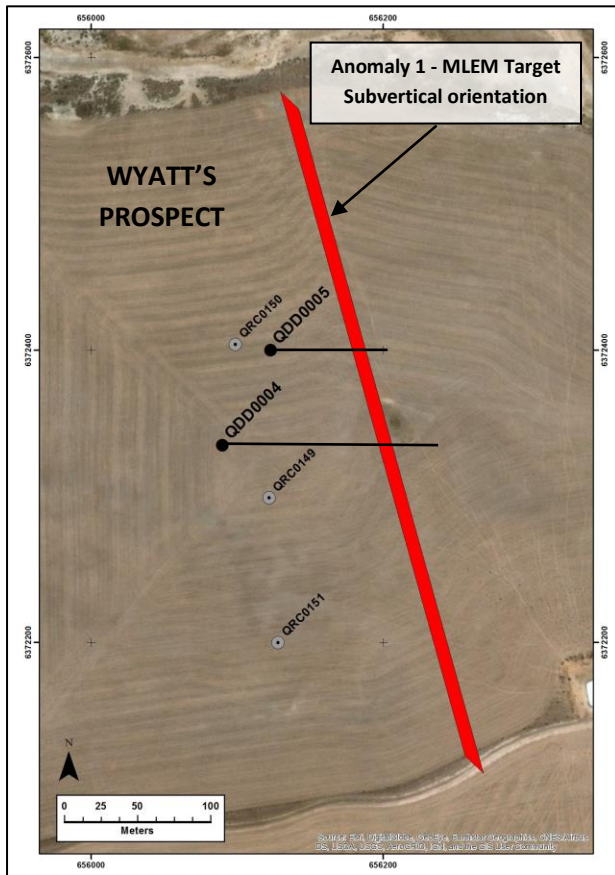

Figure 2: Drill hole collar locations at Wyatt's prospect
Two deeper angled diamond drill holes (QDD0004 and QDD0005) were successfully completed at the Wyatt's prospect (Table 1, Figure 2) for a total of 441.4m of drilling. The holes were specifically designed to test a previously identified electromagnetic (EM) target interpreted to be associated with sulphide mineralisation (see Golden Mile Resources ASX announcement dated 5 July 2018).